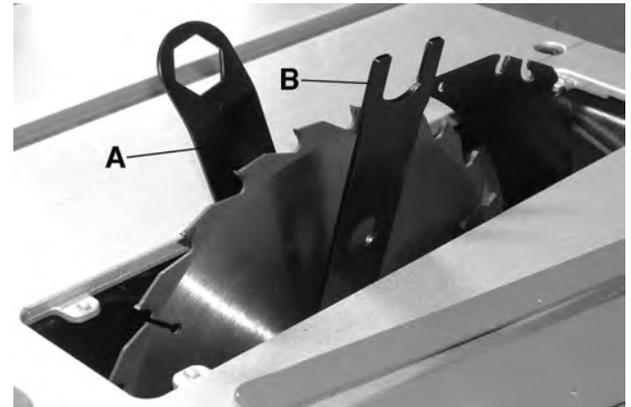
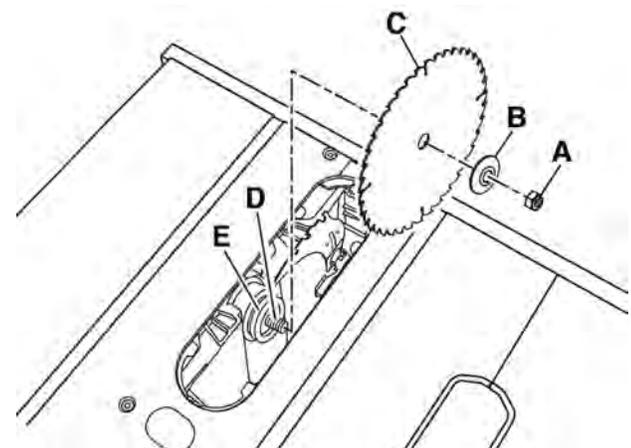

FIGURE 25
FIGURE 26
3. Place the open end of one of the adjustment wrenches (A) Fig.25 on the flat portion of the inside blade flange (E-Fig.26, behind the blade) to prevent the saw arbor and blade from rotating. Then place the closed end of the second adjustment wrench (B) Fig.25 on arbor nut (A) Fig.26 and turn the arbor nut counterclockwise, remove arbor nut and outside blade flange (B) Fig.26.
4. Place new blade on arbor (D) making sure the blade teeth point downwards towards the front of the table saw.
5. Replace outside blade flange (B) and arbor nut (A) Fig.26 on arbor shaft and tighten with arbor wrenches.